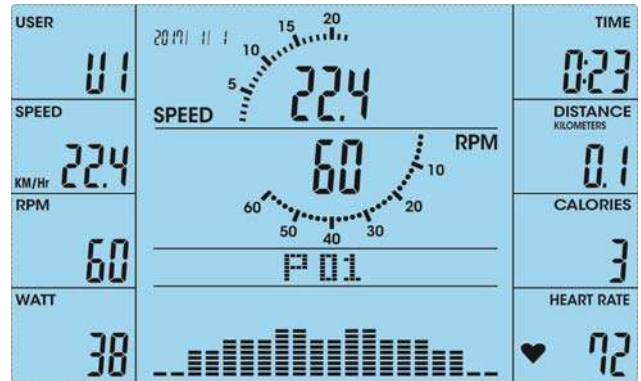

FIGURE 31
2. User can preset the TIME data then press START/STOP to start exercise. (FIGURE 31)